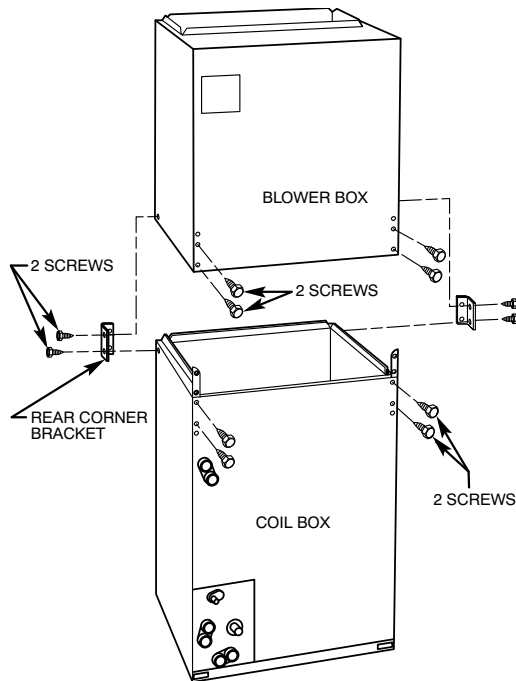

Fig. 7 – Removal of Brackets on Modular Unit
NOTE: Modular units can be disassembled and components moved separately to installation area for reassembly. This process accommodates small scuttle holes and limiting entrances to installation sites (Fig. 7).
- b. Remove air splitter (B) from coil seal assembly by removing 3 screws (Fig. 7 inset).
- c. Remove filler plate (A) and install air splitter (B) in place of filler plate.
- d. Install filler plate (A) as shown in horizontal right application.
- e. Remove condensate troughs (C) and install on opposite tube sheets.